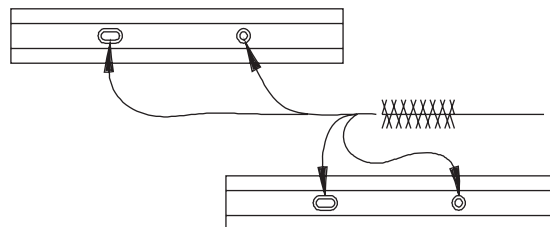

Figure 7-8 Clean beater shaft pin holes.
e. The beater shafts and the scraper blade pin holes as shown in figure 7-8.